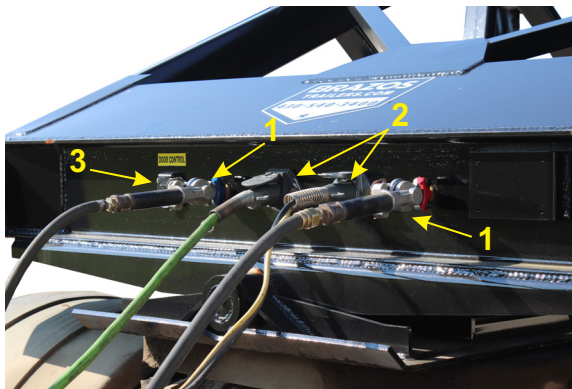

Figure 3-12 – Locked Tailgates
- Verify that the belly dump gates (1, Figure 3-12) are fully closed.
- Connect the tractor service control airlines (1, Figure 3-12) and electrical lines (2, Figure 3-12) to the semitrailer service control coupler. If the tractor is equipped with an in-cab Gate Door control, connect that line to the Door Control connector (3, Figure 3-12).